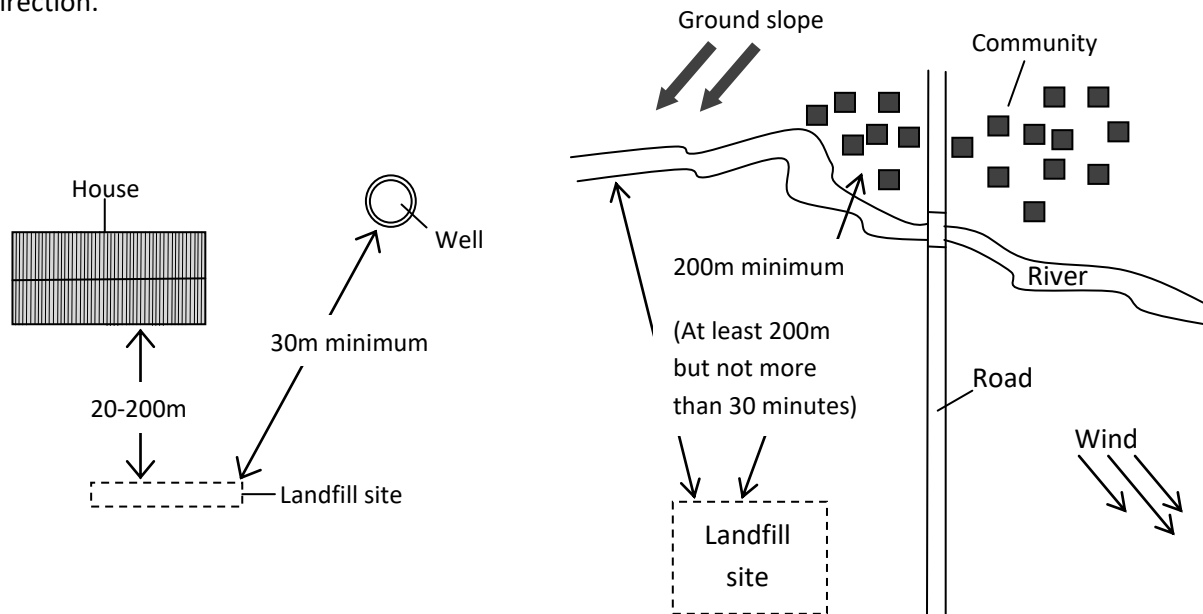

Figure 1: Landfill locations for household/compound (left) / community (right).
2. **Distance:** A landfill must be far enough from wells and streams to protect water supplies from contamination, far enough from dwellings to prevent causing a nuisance, and close enough to the source of the waste to avoid excessive transport. If you are making a landfill site for one house or compound, it should be at least 30 metres, preferably downhill, from wells and streams. A community landfill should be at least 200 metres, preferably downhill, from wells and streams and at least 200 metres from the nearest dwelling (see Figure 1).
When a suitable site has been located, draw a map like Figure 1 showing the site in relation to dwellings, water wells, streams, roads, and so on, and indicating ground slope and prevailing wind direction.